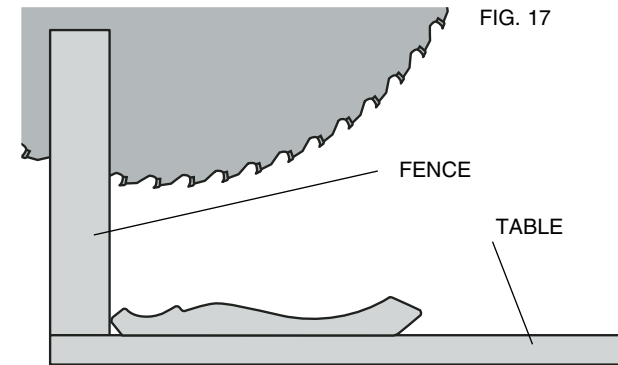

FIG. 17
1. Molding laying with broad back surface down flat on saw table (Figure 17).